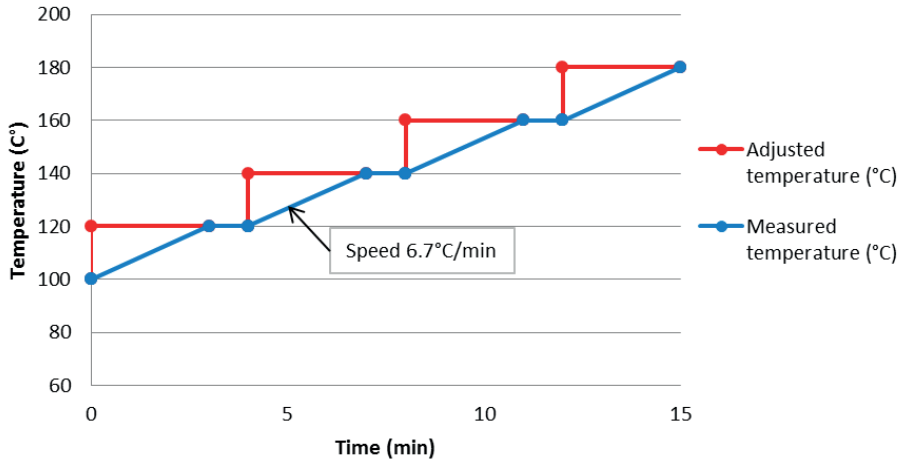

Fig. 1. When the rate of temperature increase is higher than 5°C/minute, the time between the incremental steps has to be taken into account.
4. Open steam condensate valve gradually allowing condensing to start. The temperature increase has to be done step by step, max. 20°C/step and then let it stabilize (the temperature increasing rate at start-up is max. 5°C/minute). The temperature is increased with increasing pressure. The steam side pressure must always be lower than the cooling side pressure. (Figure 1 and 2)